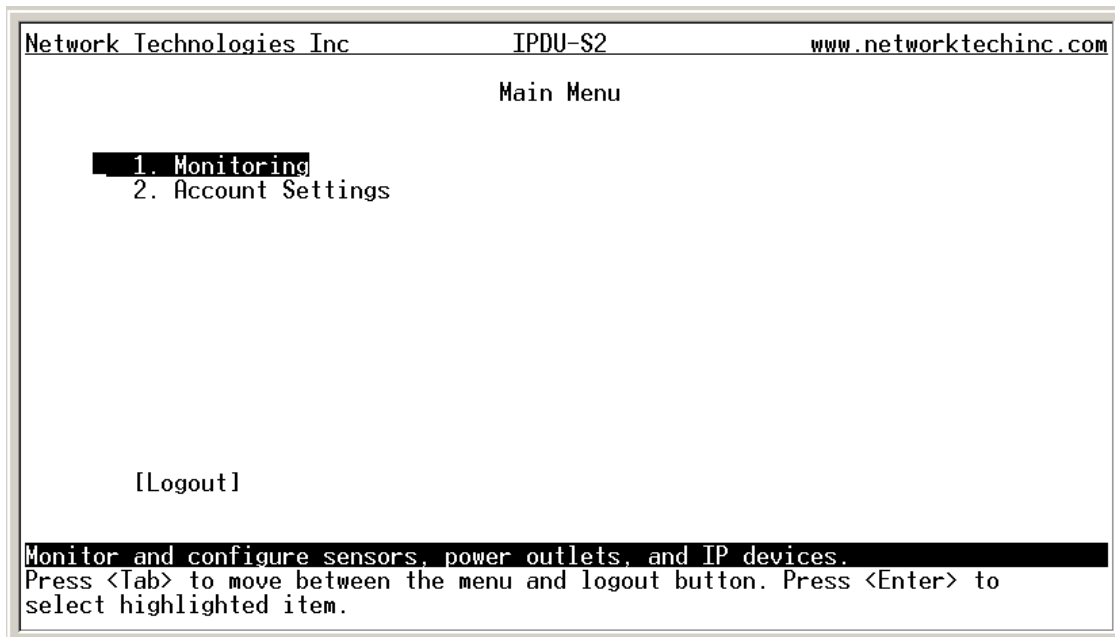

Figure 65- Text Menu- User Main Menu
- To move from menu list to action key (such as “Logout” in Figure 65 above), press <Tab>.